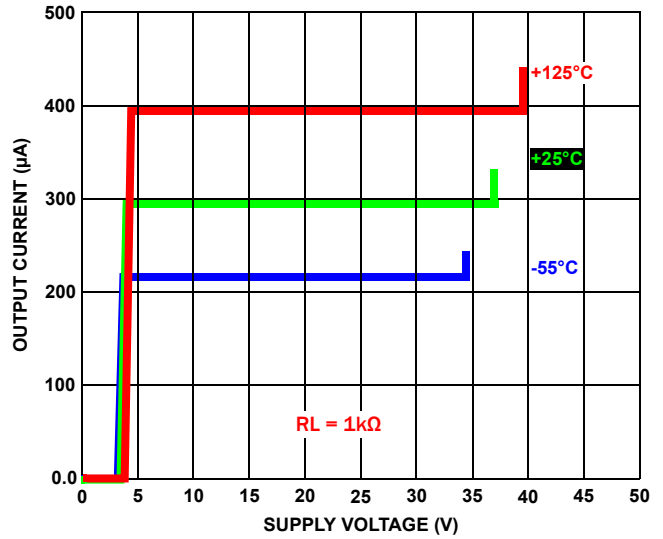

FIGURE 9. VI CURVE OF  $V_S$  vs  $I_{OUT}$  OVER-TEMPERATURE
- The maximum voltage beyond which output current performance is not to be considered valid (Figure 9).